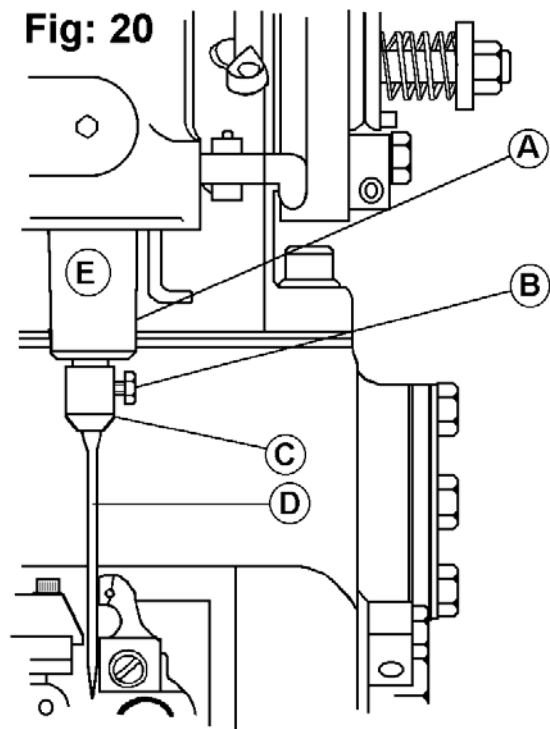
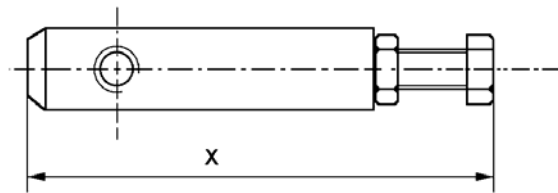

Fig: 20
Fig : 21
- See Fig:20. Remove the needle holder (D) from the needle holder (C) by loosening the screw (B).
- Remove needle holder (C) from the needle lever (E) by loosening screw (A).
- Measure the length X of the needle holder as shown in Fig:21.
If the needle holder (**D**) is not parallel, loosen screw (**A** Fig:20) and rotate the needle holder (**D**) until it is parallel.